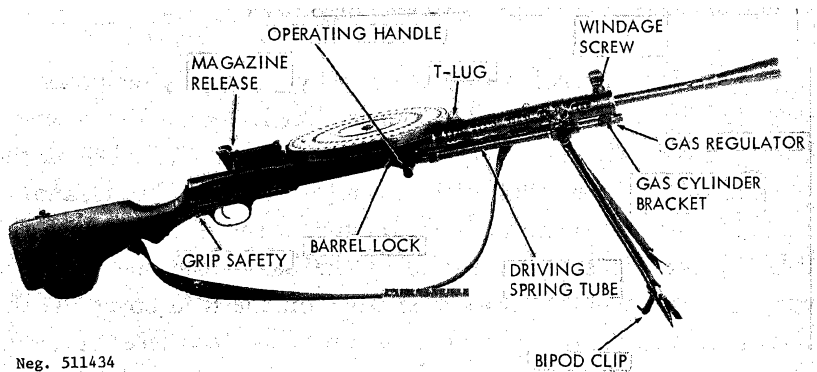
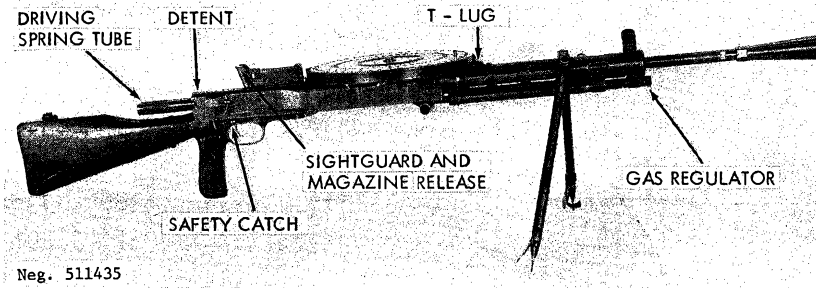
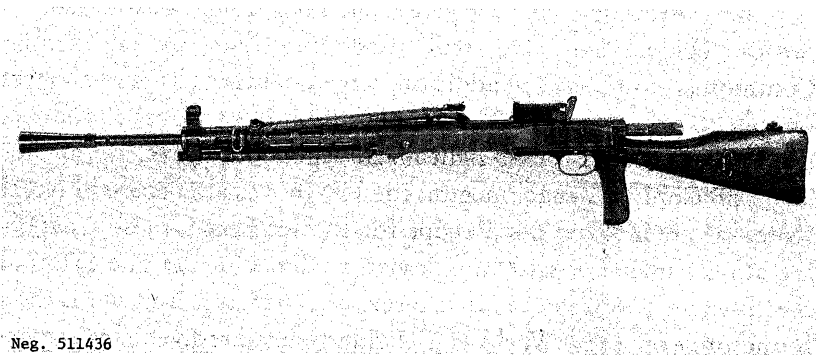
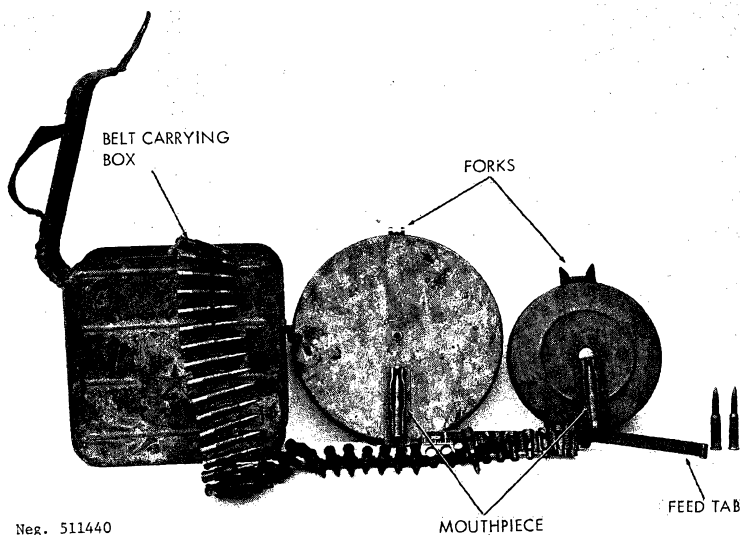

Figure 135. Degtyarev DP light machinegun.
Figure 136. DPM light machinegun.
Figure 137. PRC Type 53 light machinegun.
Figure 141. Degtyarev belts and drums.
- (1) The DP infantry light machinegun (fig 135).
(2) The DPM modernized infantry light machinegun (fig 136) and its Chinese copy, the Type 53 light machinegun (fig 137).
2-layer pan magazines. The RP-46 normally is fed from a 250-round, nondisintegrating, metallic-link belt; however, it can also be readily converted to use 47-round pan magazines (fig 141). All of these Degtyarev machineguns fire the 7.62x54R long rimmed cartridge (sec VI).
c. The DP, DPM, and DTM machineguns each has a sliding dust cover over the feed opening on top of their receivers; if this is closed, slide it forward to open. Engage the fork (fig 141) at the front of the magazine with the "T" lug (fig 135) on top of the barrel jacket; then seat the rear of the magazine into place in front of the rear sight. Strike the top rear of the magazine with the side of a closed fist to insure that the magazine is fully seated. Pull the operating handle (fig 135) fully to the rear.
The DP has an automatic grip safety (fig 135) behind the trigger guard; the DPM, DTM, and RP-46 each has a rotary safety lever (fig 136) above the right side of the trigger. Rotate the safety forward to make these weapons safe.
h. To unload or clear, pull the magazine release-rear sight guard (fig 135) of the DP or DPM rearward and lift the pan magazine off the receiver; press the magazine release (fig 140) of the DT or DTM to the side or rear (depending on the particular design) and lift the magazine off. Pull the rear sight guard of the RP-46 to the rear and, when the cover opens, lift the belt out of the gun. Pull the operating handle to the rear; insure that no cartridges are present in the chamber, receiver, or feedway; then press the trigger and ease the operating handle forward. Apply the safety and close all covers.
i. The DP, DPM, and RP-46 have quick-change barrels; the DT and DTM do not. To change the barrel, cock the gun and press in on the barrel lock (fig 135) of the DP and DPM, or press the barrel-release lever (fig 139) of the RP-46 fully forward to release its barrel lock. Place a wrench on the barrel notches near the muzzle and rotate the barrel clockwise one-sixth of a turn; then pull the barrel forward and out of the barrel jacket. Insert a fresh barrel, depress the barrel lock, seat the barrel fully, and counterrotate it one-sixth of a turn to lock it in place. Use caution when changing barrels; they get very hot!